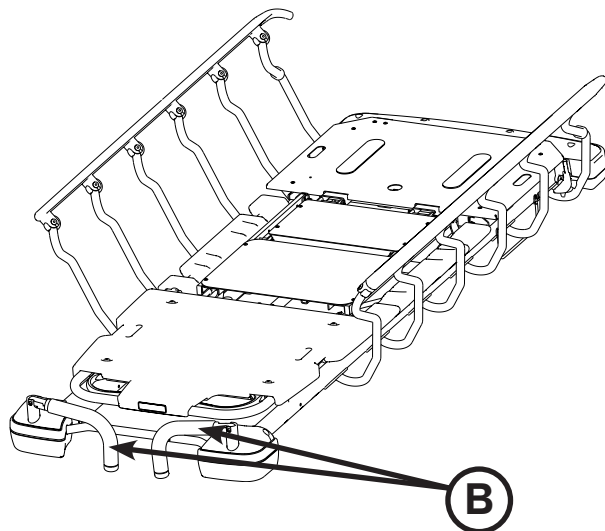

Figure 19: Push Handles Stored
To store the push handles, lift the handles (B) up and pivot them down to store in the handle rests (Figure 19).